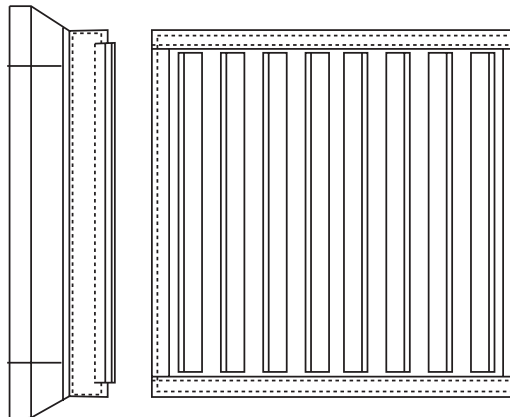

Figure 3. Vertical Louver Assembly
1. Position vertical louver assembly (see **Figure 3**) on face of heater and align existing mounting holes.